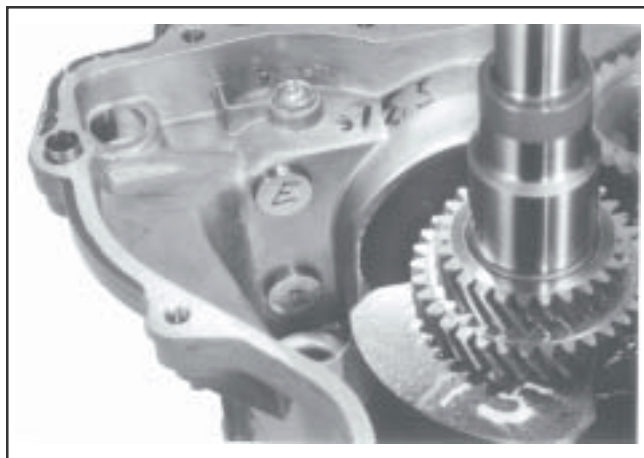

Figure 11-11b. Installing Hydraulic Lifters.
3. Note the mark or tag identifying the hydraulic lifters as either intake or exhaust. Install the hydraulic lifters into the crankcase. See Figure 11-11b.